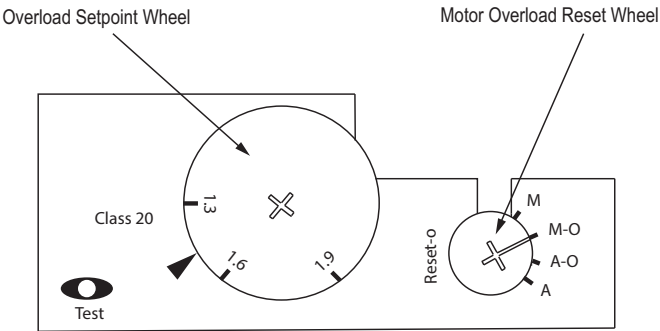

Fig. 30 — Motor Starter Setting
- 1. On the starter, adjust the Motor Overload to match the **FLA Rating** of the installed motor by turning the Overload Setpoint wheel to the appropriate value. See Fig. 30. Evaporator and condenser motor FLA ratings are listed in Table 12.